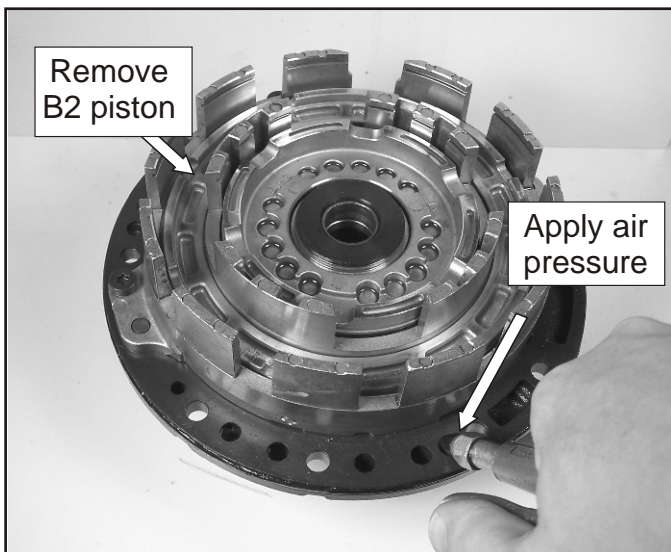

Figure 105
54. Apply compressed air to the passage shown in Figure 105 and remove the B2 piston. **Caution:** *Using compressed air may cause the piston to jump out of the housing.*